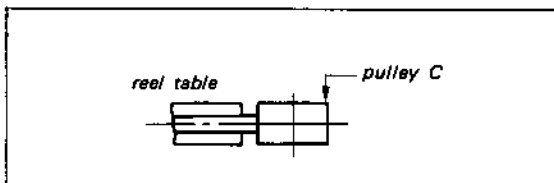

Fig. 3-4 Pulley "C" height adjustment
1. In the Fast Forward or Rewind mode, the reel tables should run in the center of pulley "C" as shown in Fig. 3-4.